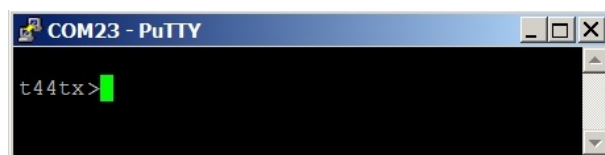

Figure 6: Open terminal window for module configuration via serial line
Click on „Open” button in „PuTTY” program and open the terminal window. After pressing of „ENTER” key there will appear a command prompt „t44tx” which announces that the module is ready to be configured (see figure 6).
- the command must be entered only when a prompt for command appears in front of the cursor mark (colored or flashing little square); the prompt is either „t44tx” or „mon” format (see figure 6);